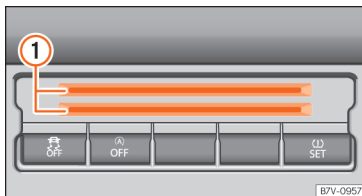

Fig. 162 Lower part of the centre console: card compartment.
To the bottom of the centre console there is a compartment » **Fig. 162** ① for coins, cards, car park tickets and similar items.